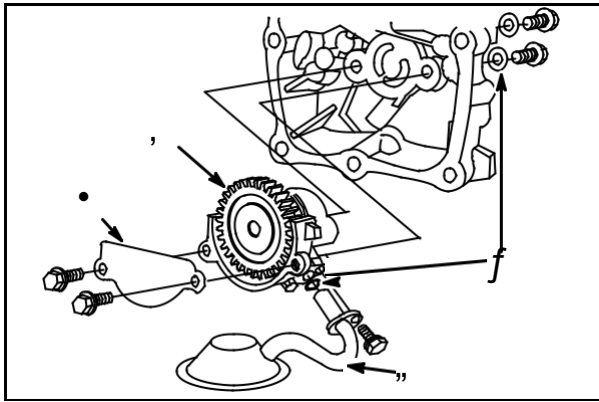
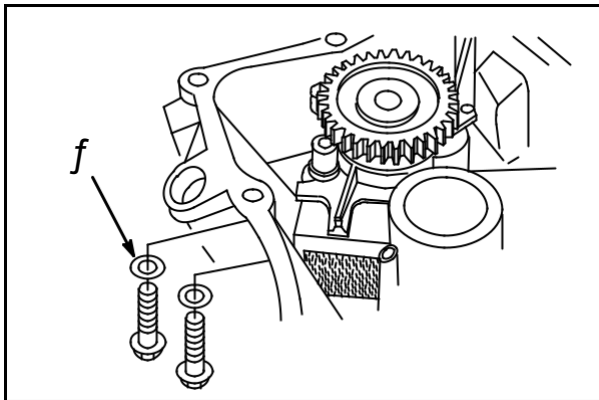

Fig. 24
Fig. 25
Remove gear baffle (1) and oil pump (2) with pickup (4) from crankcase cover (horizontal crankshaft engines), **Fig. 24**, or sump (vertical crankshaft engines), **Fig. 25**.